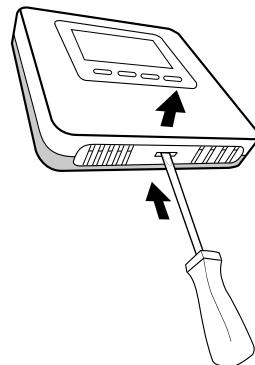

Fig. 11
- Detach the room sensor's base by pressing down the tab at the bottom (Fig. 11).